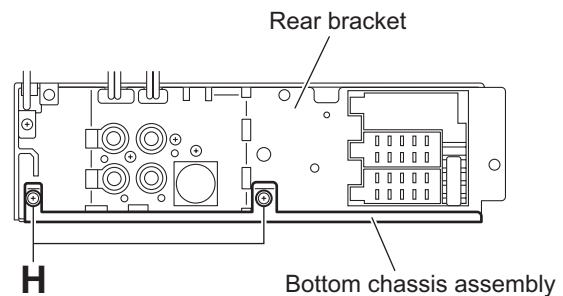

Fig.11
3.1.7 Removing the main board (See Figs.11 and 12)
- (1) From the rear side of the bottom chassis assembly, remove the two screws **H** attaching the rear bracket to the bottom chassis assembly. (See Fig.11.)